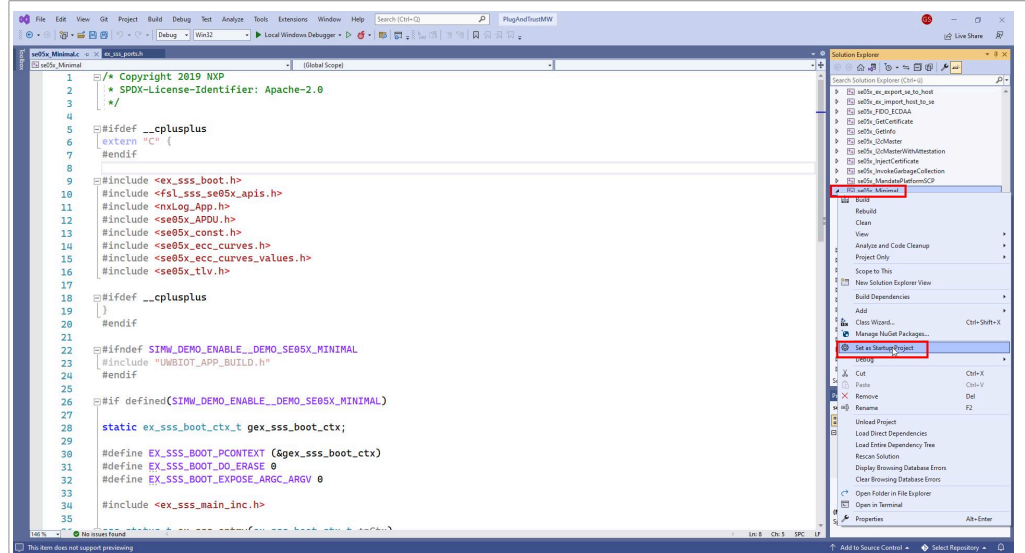

Figure 20. Set se05x_minimal as StartUp project
- 6. Select the se05x_minimal project from the Solution Explorer window located on the right-hand side of the Visual Studio IDE. Do right-click on the project and click on **Set as Startup project** as shown in Figure 20: